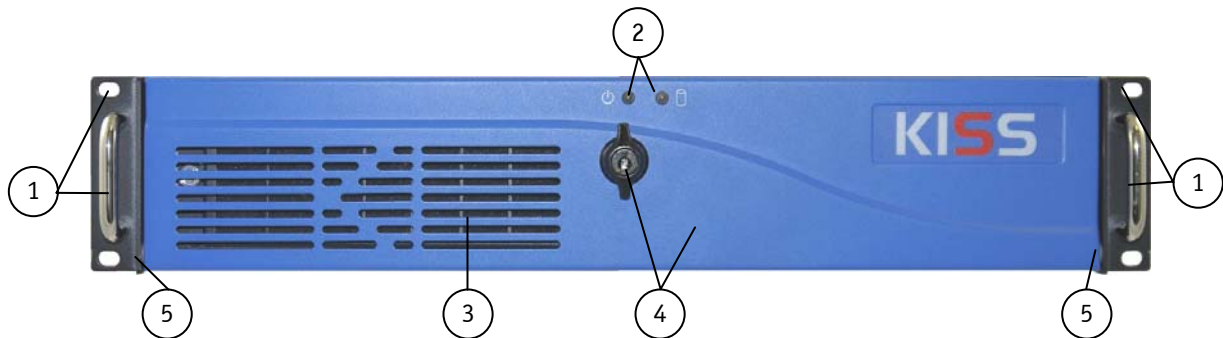
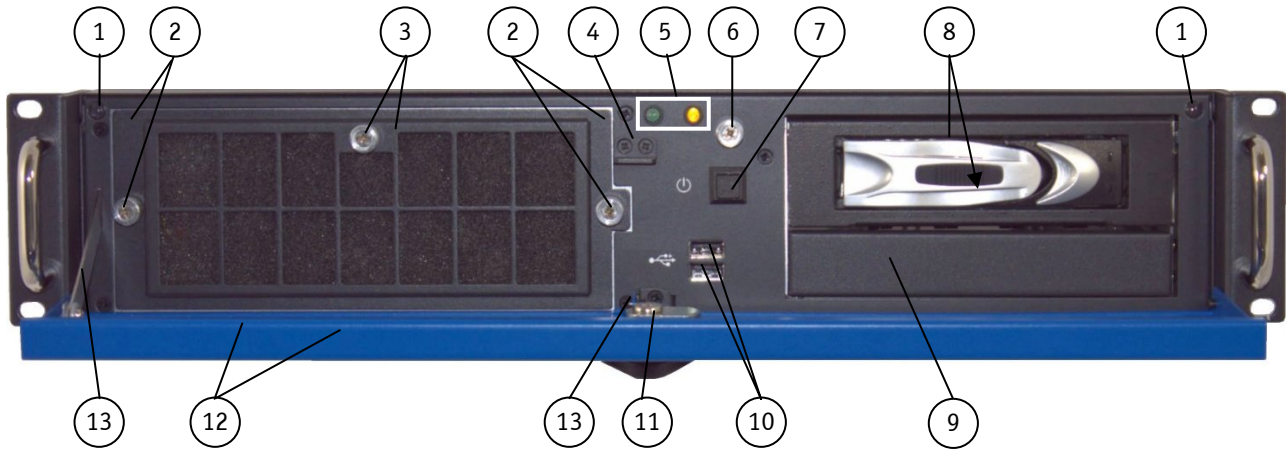
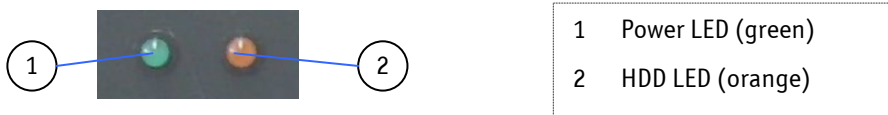

Fig. 7: Front (rackmount version) with the front access panel closed
Fig. 9: Front (rackmount version) with the front access panel open
Fig. 11: LED indicators
The Power button, the USB ports and the integrated 5.25" drive are located on the front side (Fig. 9) of the KISS 2U V2 platform, behind the front access panel.
The power button (refer to Fig. 10, and Fig. 9, pos. 7) is located at the front side of the platform, behind the front access panel and allows to power ON/OFF the system. Please observe the settings option for "Restore on AC Power Loss" in the BIOS Setup.
Turning the power off using the power button (refer to Fig. 9, pos. 7) does not disconnect the KISS 2U V2 platform from the AC/DC power source.
AC wide range PSU: Please observe that the ON/OFF switch of this PSU (see Fig. 27) does not disconnect the KISS 2U V2 from the AC power source. Even you turn off the system using the power button (Fig. 9, pos. 7), and the ON/OFF switch of this PSU, there is still a standby-voltage of 5 Vsb on the motherboard or SBC (refer also to the hint in the subsection 7.2.4).
The LED indicators (refer to Fig. 9, pos. 5 and Fig. 11) of the KISS 2U V2 are located at the front of the device, behind the front access panel.
Power LED (green)	This LED (Fig. 11. pos. 1) is green when the system is switched on using the Power On/Off button. Requirement: The system must be connected to the corresponding power source, using the power cable. The power supply ON/OFF switch (if available), on the rear of the system must be set to “ON”.
HDD LED (orange)	This LED (Fig. 11. pos. 2) is orange when the hard disk is accessed.
KISS 2U V2 is equipped with two USB (2.0) ports on the front (Fig. 9, pos. 10 and Fig. 12). You can connect various USB devices to these two USB 2.0 interface connectors.
The securing lock mechanism (Fig. 7, pos. 4) located at the access panel allows you, if required, to protect your system from unauthorized use. When the access panel is locked, the cover of the KISS 2U V2 system can not be removed, and the drives, filter mat holder and power button are not accessible.
The cover fastening screw (Fig. 9, pos. 6) secures the cover to the chassis on the front side.
- The cover fastening screw (Fig. 9, pos. 6) on the front side
The filter mat and the filter mat holder (Fig. 9, pos. 3) are located behind the air grilles of the front access door (Fig. 7, pos. 3). The filter mat holder is fastened to the fan slide-in module (Fig. 46, pos. 4) by a knurled screw (Fig. 46, pos. 5). The filter mat is inserted in the filter mat holder (Fig. 42). This filter mat protects your system against dust and dirt (see section 10.2 "Cleaning the Filter Mat").
The two system fans are integrated in a user-friendly, replaceable fan slide-in module (hot-swap) (see subsection 7.2.6 "Fan Slide-In Module and Temperature Sensor"). The fan slide-in module (Fig. 9, pos. 2) can be replaced during operation (see section 10.1 "Replacing System Fans").
Depending on the ordered system configuration, your KISS 2U V2 can be equipped with up to two drive bays (see (Fig. 9, pos. 8 and 9; configuration with an internal HDD):
Drive Bay	Description (refer to Fig. 9)